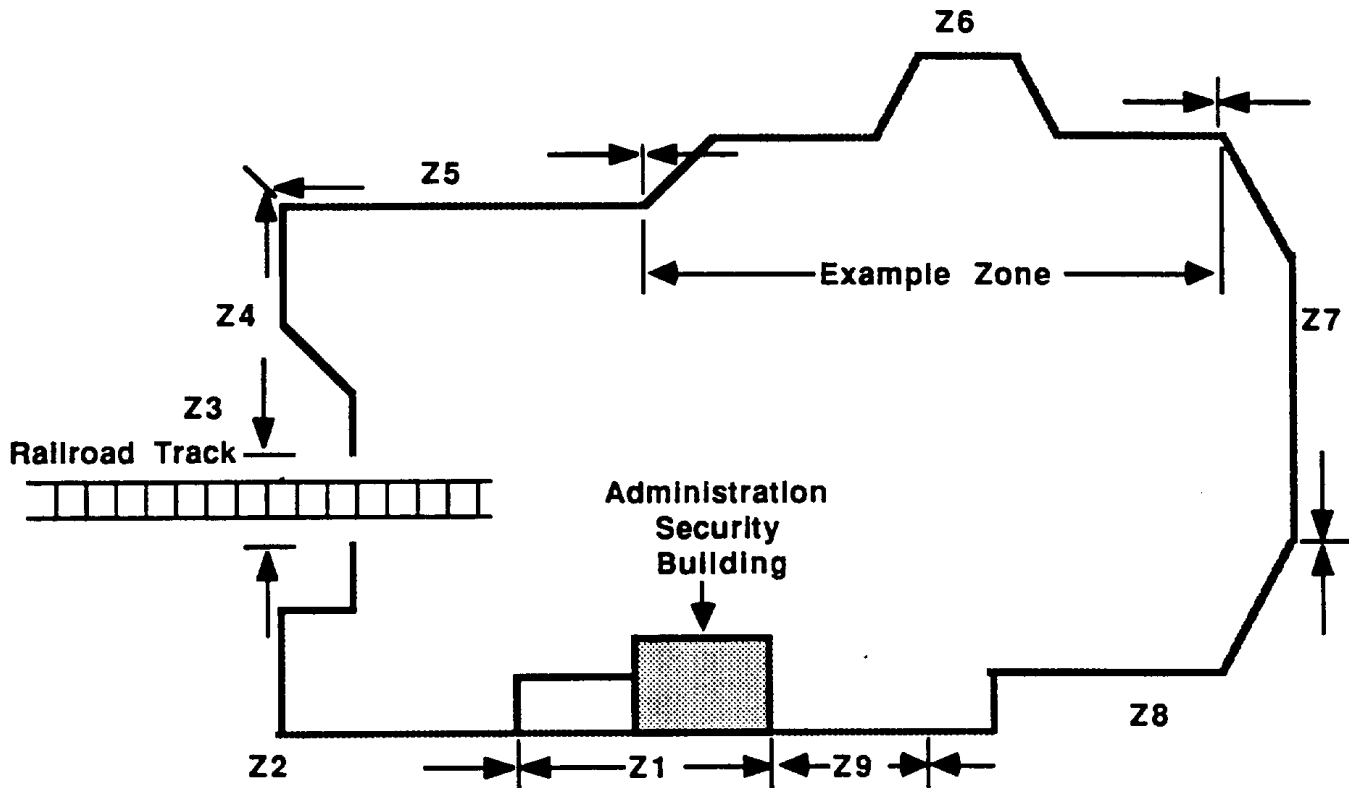

Figure 3-1. Perimeter Plan
1. The installation starts with the perimeter plan or zone segments as defined by the needs of the particular facility, its security plan, environmental and topographical factors. Figure 3-1 outlines a hypothetical case.